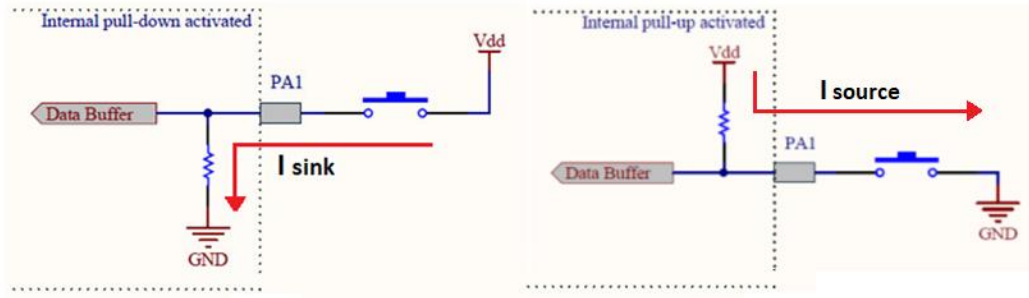

Figure 5: Sinking and Sourcing Digital Input Ports
- Sometimes, the pull-up or pull-down resistors are provided internally within the digital input port, in such cases no need to connect them externally. If the digital input port is provided with a internal pull-up resistor it is called **sourcing digital input port**. If the digital input port is provided with a internal pull-down resistor it is called **sinking digital input port**. Refer to Figure 5